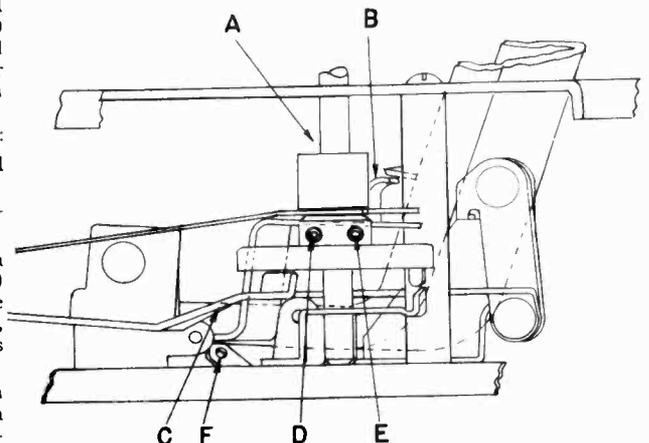

Fig. 5. Adjustment Points
F. PICK-UP ARM LIFT—The stylus should clear the top record of a full stack of records upon the turntable by approximately $\frac{1}{8}$ inch in its approach to, or return travel across the record. Adjust by bending the Pick-up Arm Raising Lever (38) at point "C" shown in Figure 5. *Do not attempt to move Pick-up Arm Raising Disk Hub (31) up or down* as this would upset the adjustment of the Automatic Lock Lever mentioned in a previous paragraph.
G. RECORD DROP ADJUSTMENT—The distance between the Record Selector Fingers (61) and the Record Spindle is critical and should be adjusted as accurately as possible. If this distance is too great, records of minimum diameter will not be pushed off the spindle step during the change cycle. If it is too short, records of maximum diameter will either be over the tips of the record selector fingers (resulting in no record drop and improper pick-up arm index), or be pushed against the spindle with undue force, causing center hole of the record to become damaged.